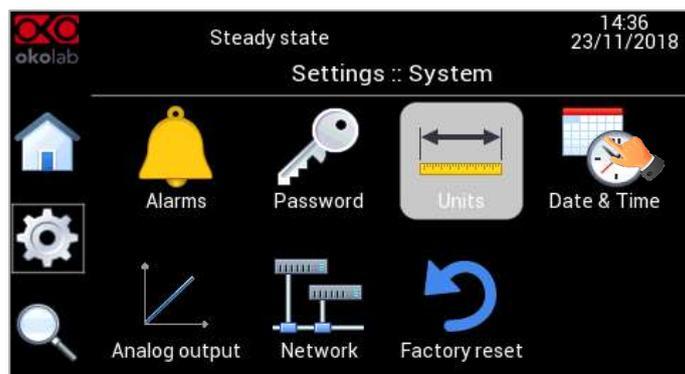

Figure 75. How to enter in Date&Time setting.
- Press the *Date & Time* icon  (see Figure 75) to enter the *Date&Time* page